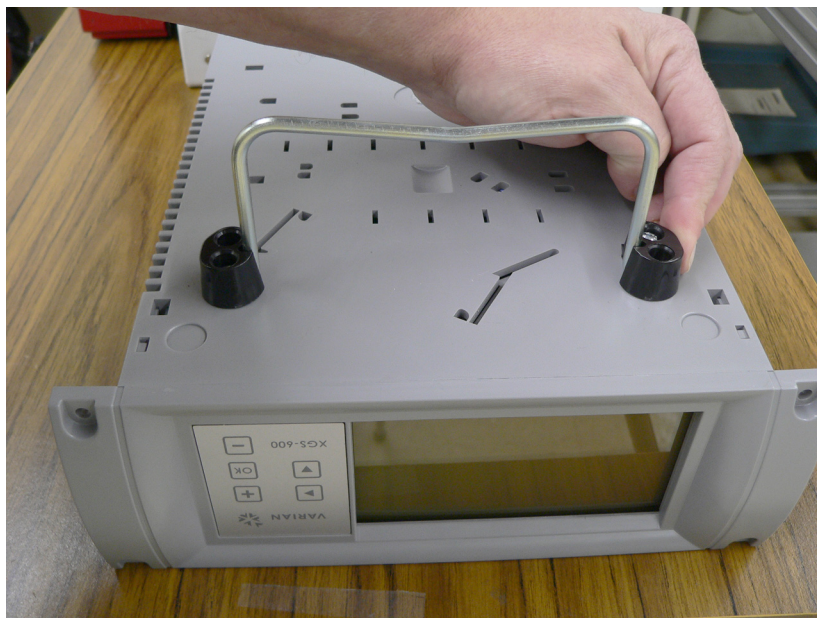

Figure 7: Foot with Pressure Applied
5. Slip the other end of the wire stand into the second foot and apply pressure from the outside of the foot to align it with the second set of holes (Figure 7: Foot with Pressure Applied).